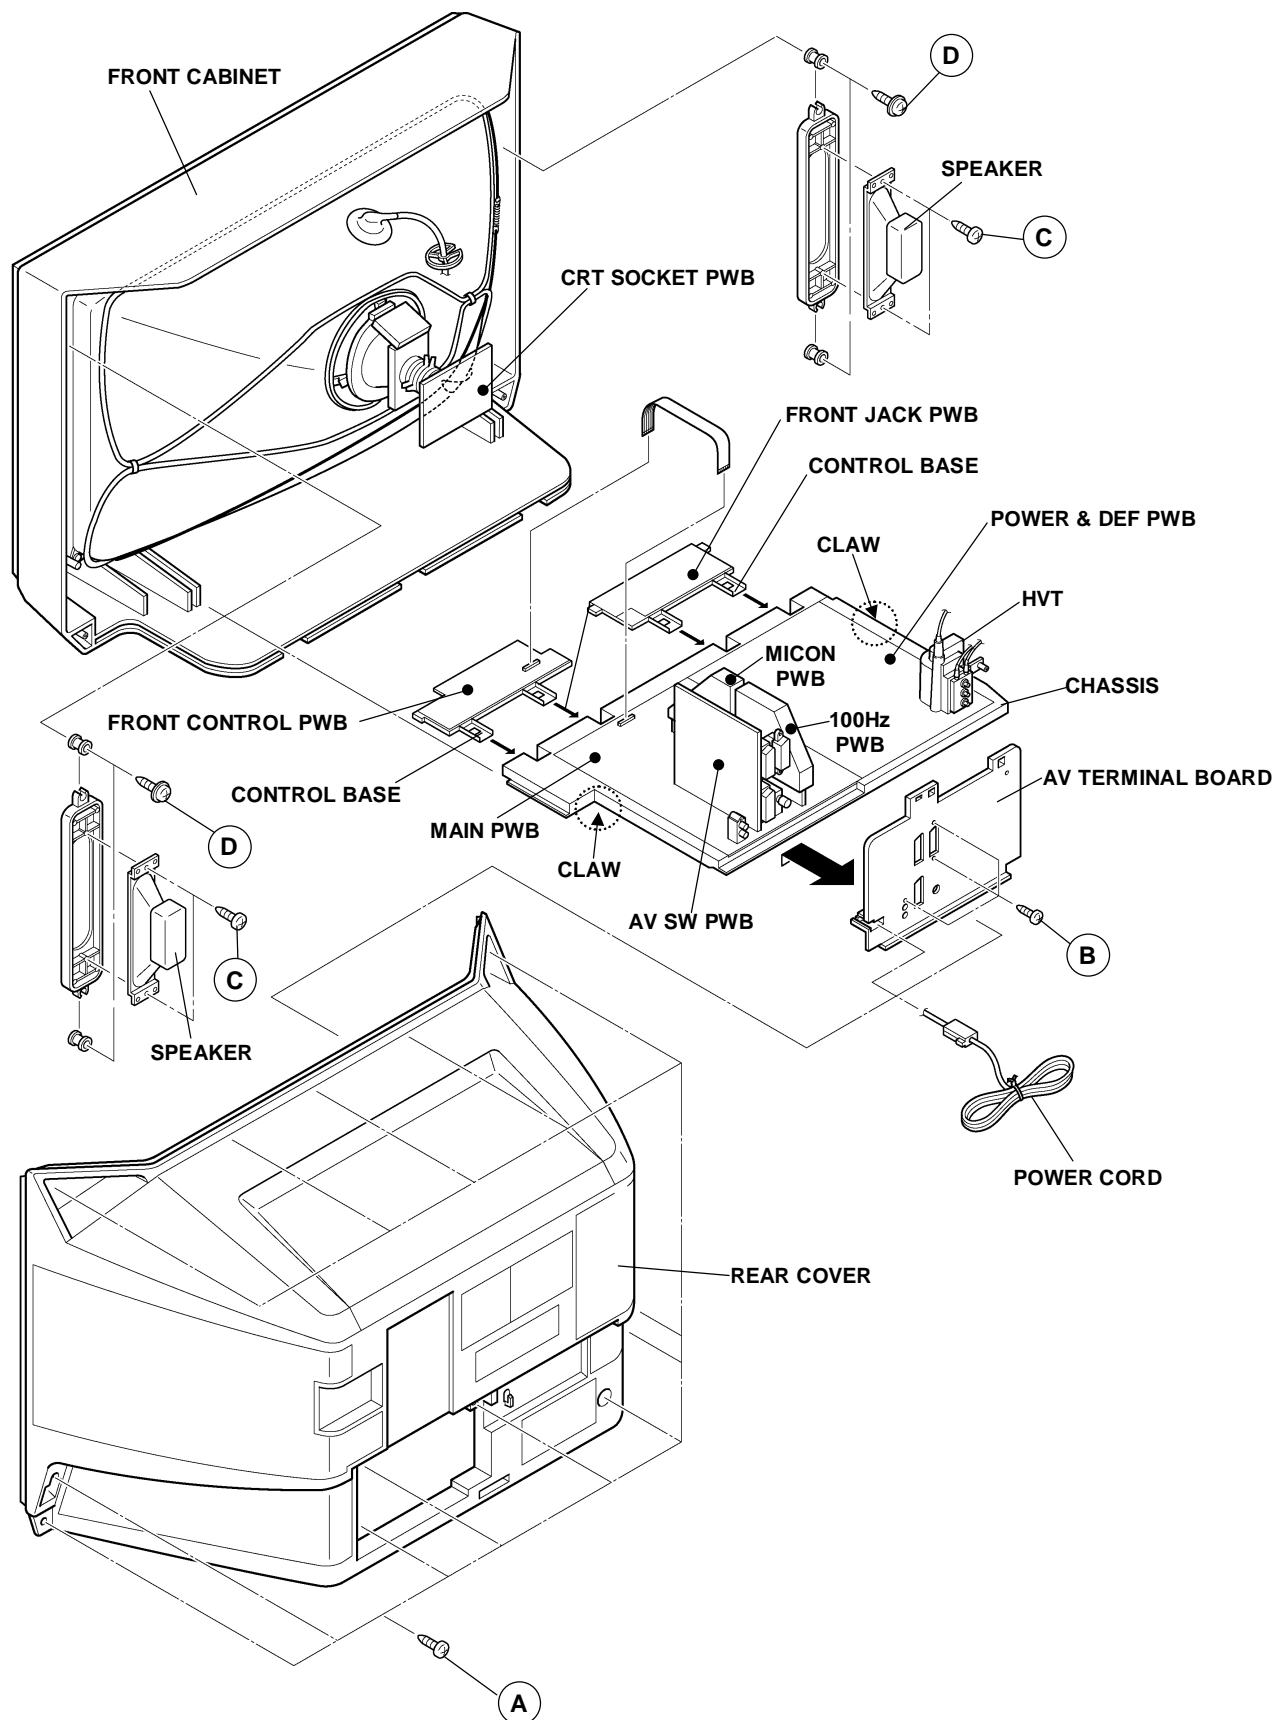

Fig.1
1. As shown in Fig. 1, remove the **2** screws marked **D**.